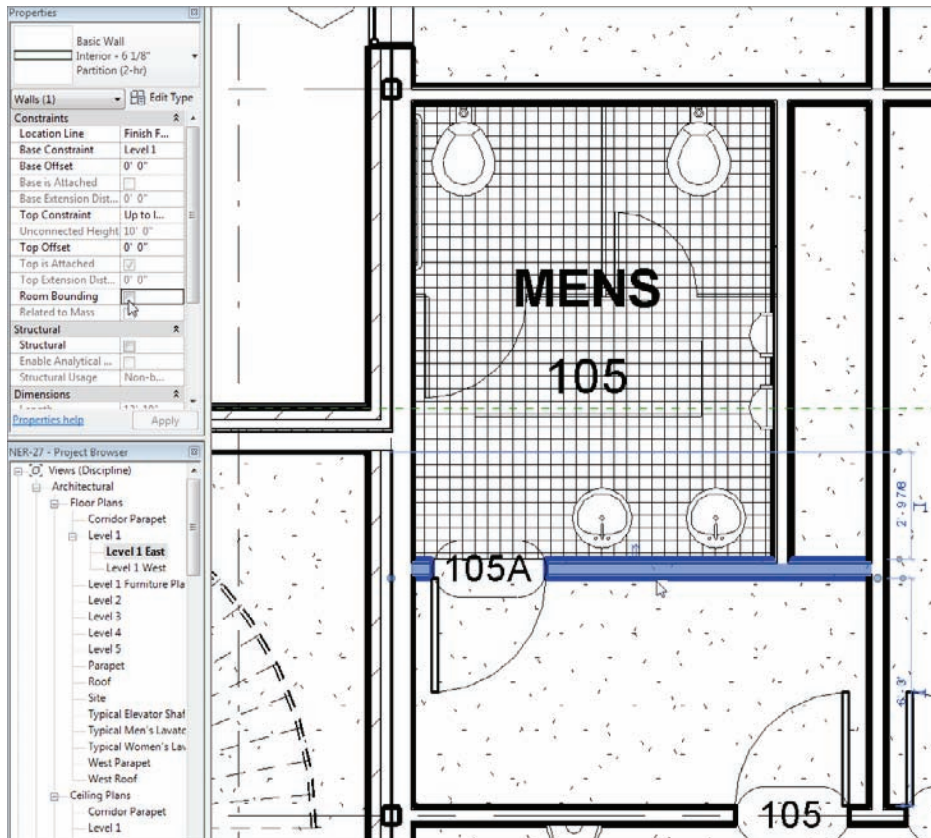

FIGURE 15.11 Selecting the partition within the Men's lavatory
2. Select the wall that divides the Men's toilet area from the Men's lavatory entry area, as shown in Figure 15.11.
4. Deselect Room Bounding (see Figure 15.11).